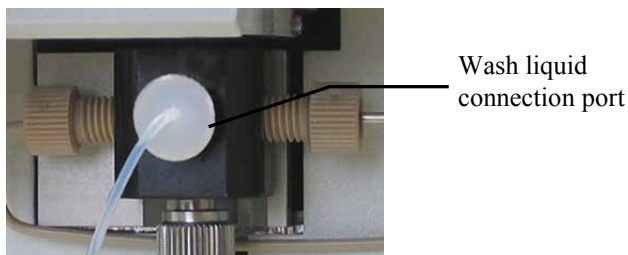

Fig. 19: Wash liquid line connected to the syringe valve
3. Connect the free end of the line to the syringe valve (→ Fig. 19).